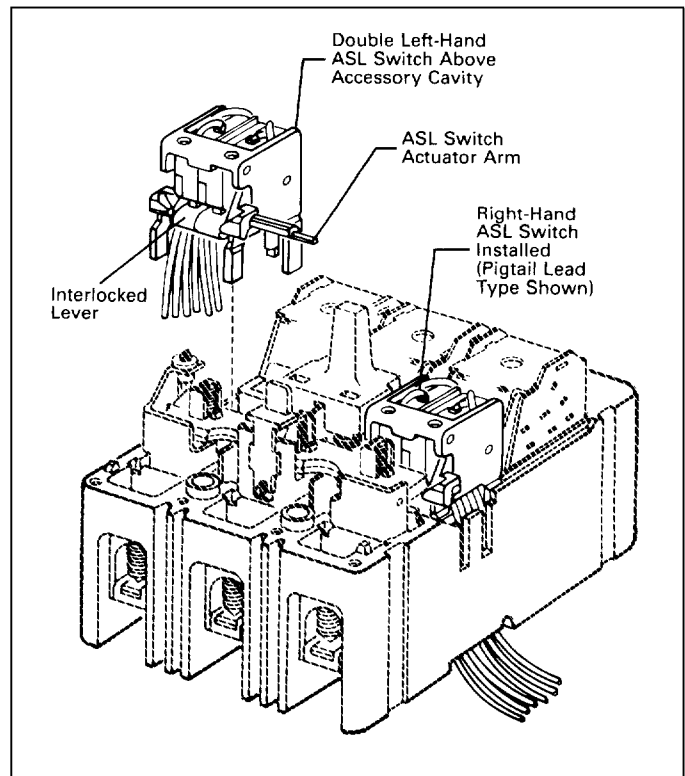

Fig. 2-5. Alarm (Signal)/Lockout Installation Positions
- 2-8. Insert ASL switch as described in the following steps (see Fig. 2-5):